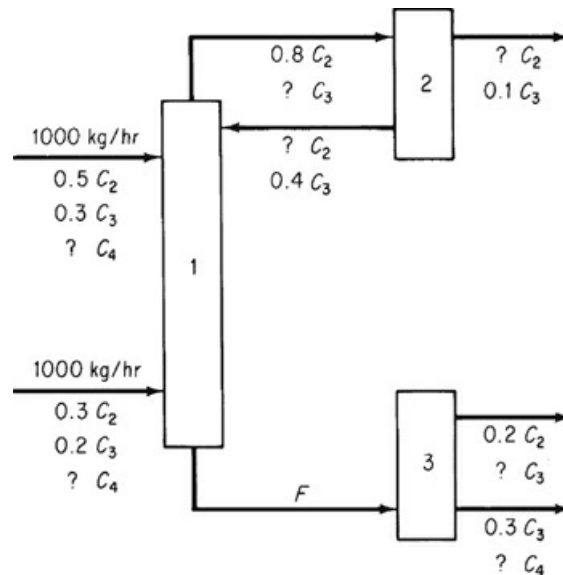

Figure P5.1.5
****5.1.5** A distillation process is shown in Figure P5.1.5. You are asked to solve for all of the values of the stream flows and compositions. How many variables and unknowns are there in the system? How many independent material balance equations can you write? Explain each answer and show all details of how you reached your decision. For each stream (except F), the only components that occur are labeled below the stream